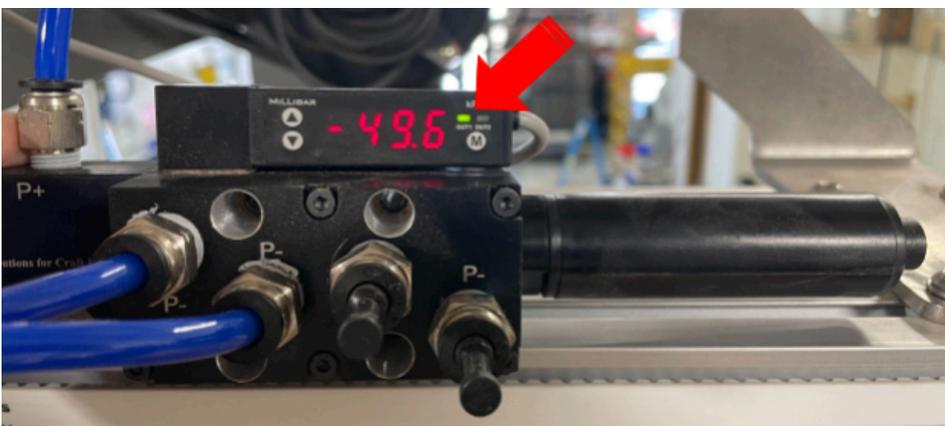

Fig. 11: Vacuum Generator sensor "OUT1" light on
- b. Attempt to pick-up a tier sheet in manual mode. Confirm that the "OUT1" light comes ON when you have achieved vacuum on the tier sheet, as shown in Fig. 11.